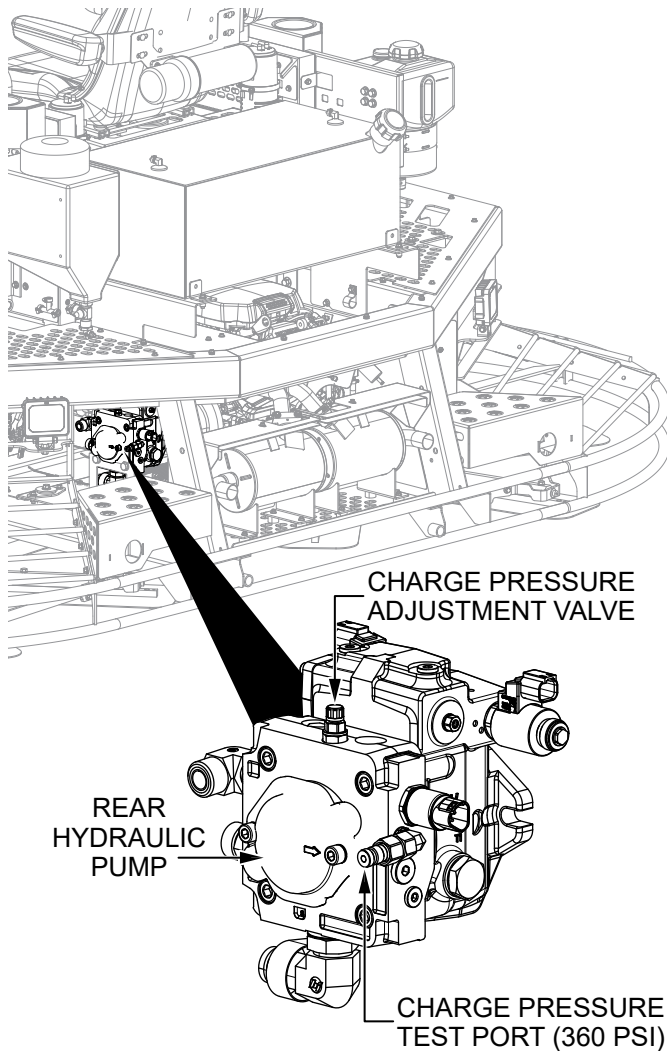

Figure 37. Charge Pressure Test Port And Adjustment Valve (Rear Hydraulic Pump)
2. Check the charge pressure for the **rear hydraulic pump** at the **charge pressure test port** (Figure 37) on the rear hydraulic pump.
8. Repeat steps 2–7 using the **charge pressure test port** on the **rear hydraulic pump** (Figure 37).
2. On either one of the hydraulic pumps, remove the protective cap on the **charge pressure adjustment valve** (Figure 37) and adjust the charge pressure as needed. Replace the protective cap when finished.